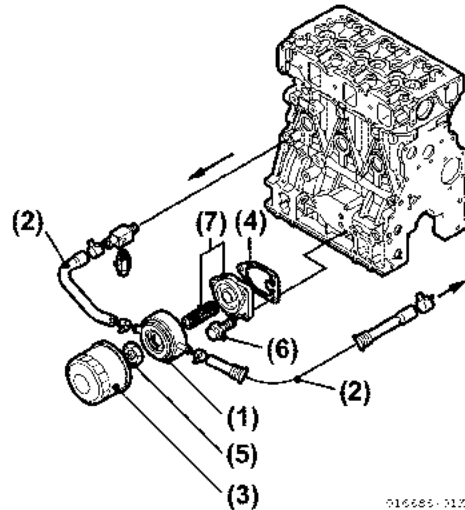
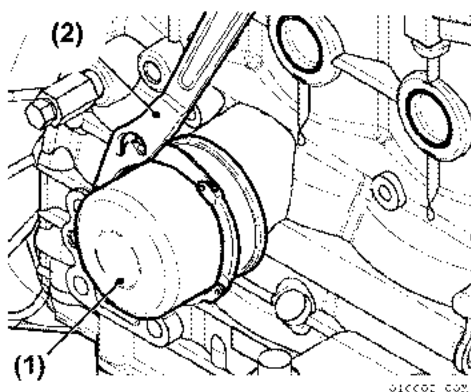

Figure 8-7
Figure 8-8
8. Turn lubricating oil filter (Figure 8-7, (3)) counterclockwise using a filter wrench (Figure 8-8, (2)) to remove from lubricating oil cooler (Figure 8-7, (1)).
9. Remove lubricating oil cooler nut (**Figure 8-7, (5)**) and lubricating oil cooler. Loosen bolts (**Figure 8-7, (6)**) for filter bracket and remove filter bracket (**Figure 8-7, (7)**).
14. Coat the new lubricating oil filter seal with lubricating oil and install the lubricating oil filter (**Figure 8-8, (1)**) manually turning it clockwise until the seal touches the mounting surface, and tighten it further to 3/4 of a turn using a filter wrench (**Figure 8-8, (2)**).